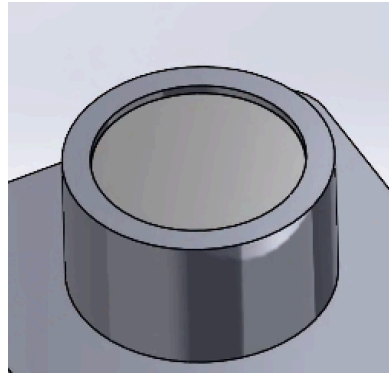

Figure 2
- Second, attach the magnet to the magnet mount, it should be press fitted into the mount (Figure 2)